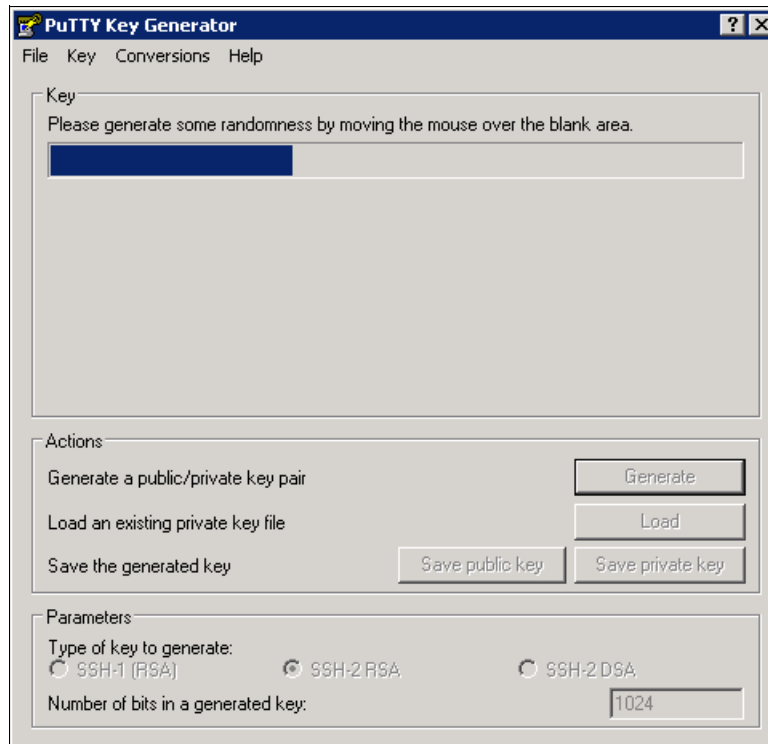

Figure 8-2 Generating Keys
2. Click **Generate** and move the cursor over the blank area to generate keys (Figure 8-2).